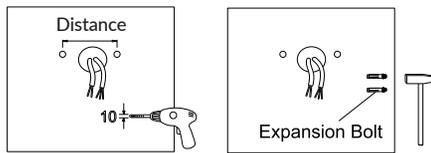

Figure 2-4
- Drill the holes on the wall per your fixture size (refer to distance shown below) to attach the **Trunnion Bracket Part A**, knock the expansion bolts (provided by other) into the holes (Figure 2-4).